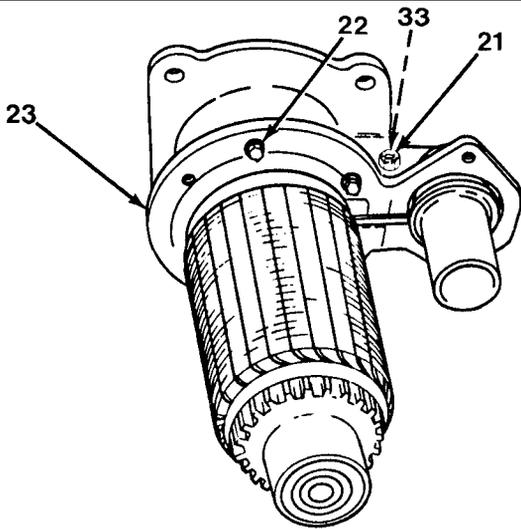

Figure 10-7
5. Install four screws (22), stud lever and washers (33) and nut (21) to drive housing (23, Figure 10-7).